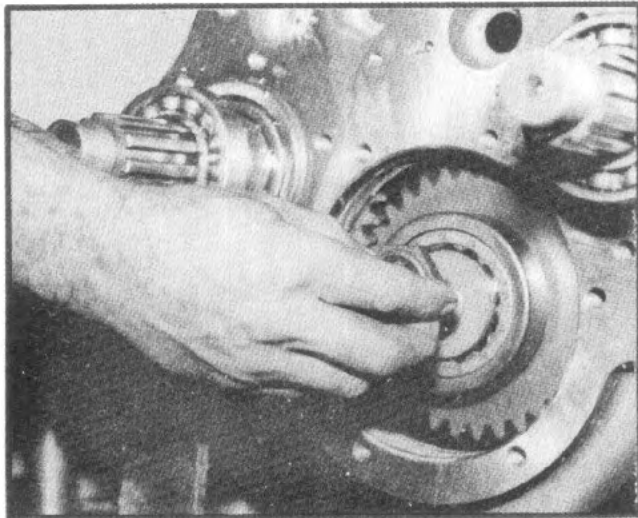

Fig. 15
8. Assemble washer and locknut to rear of shaft. Tighten locknut to correct torque (See fig. 15).